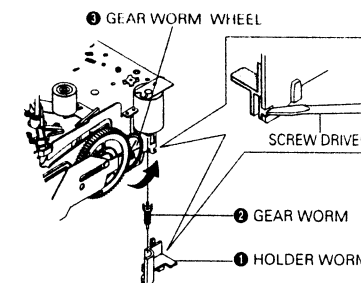

Fig. 1-32
- 4) Rotate Gear Worm Wheel ③ counterclockwise using screw driver again up to the state of eject mode and then pick out the tape. (Refer to Fig. 1-32)